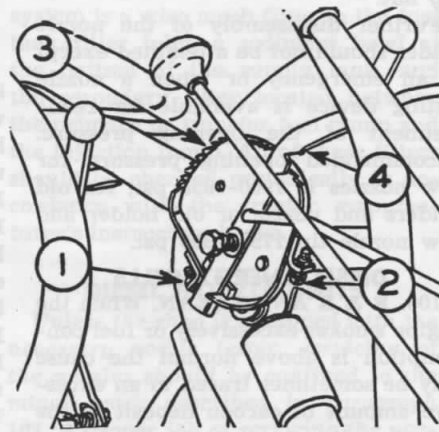

Fig. MH205—Massey-Harris Diesel engine hand throttle.
110A. To check and adjust the throttle linkage, hold the injection pump governor (throttle) arm (10—Fig. MH 188) in the full forward position and the hand throttle in the full forward position. Remove clevis pin at governor lever clevis. If idle stop screw (1—Fig. MH205) on hand throttle lever is correctly adjusted, the clevis pin should slide in and out without moving either lever. If this condition does not exist, adjust the stop screw (1) at the operator's hand throttle